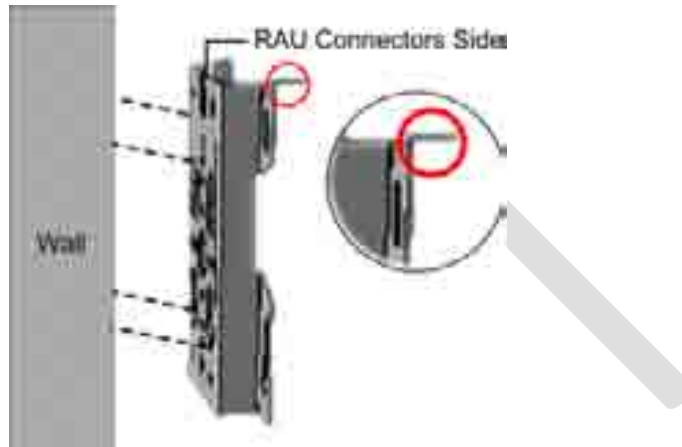
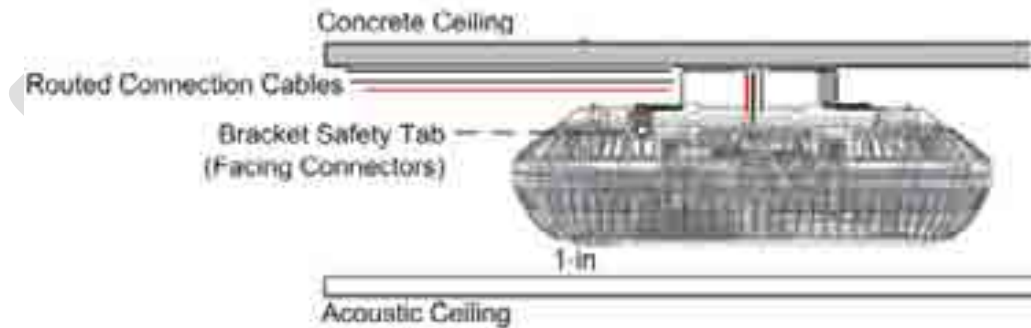

Figure 5-65. Wall Mount Bracket Installation
Figure 5-66. Above Acoustic Ceiling Installation
- When mounting the bracket, the Safety tab (circled in Figure 5-65 and Figure 5-66) should always be positioned to face the same direction as the RAU connectors (up or down).
- When installing above acoustic ceiling, allow for at least 1 inch above the acoustic ceiling for air flow cooling. See Figure 5-66.
2. Remove mounting bracket from RAU underside and mount the bracket on the wall (Figure 5-65) or concrete ceiling (Figure 5-66) using any of the applicable screw holes (screws not provided).